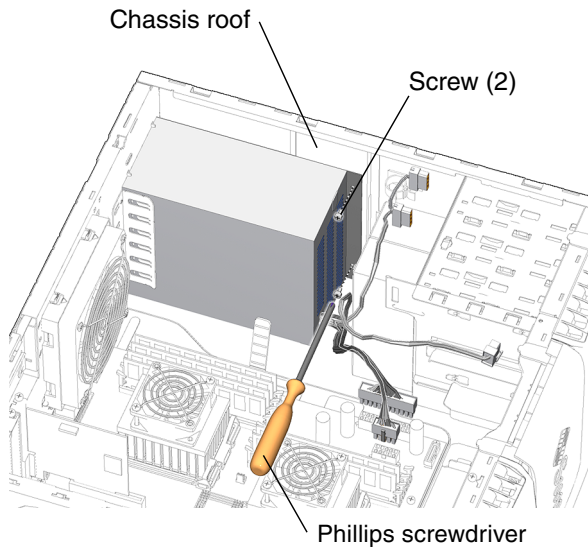

FIGURE 13-5 Power Supply Internal Screws
10. Remove the two internal power supply screws (FIGURE 13-5).